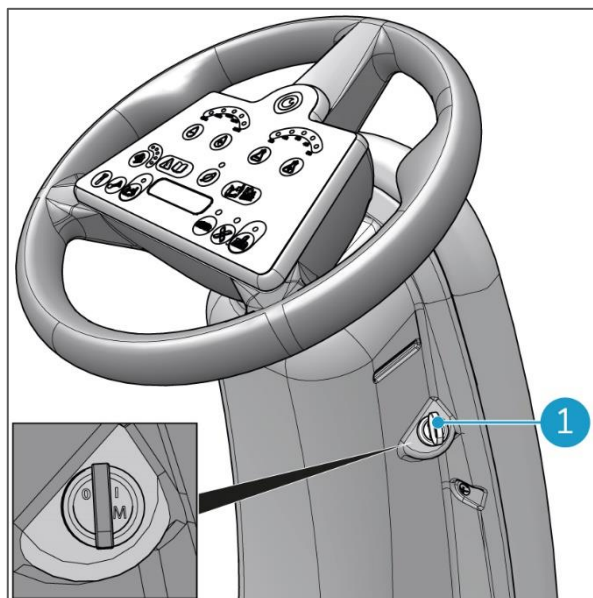

Figure 7
The ignition key fits in the designate keyhole located underneath the steering wheel on the right side. (Figure 7, pos 1).